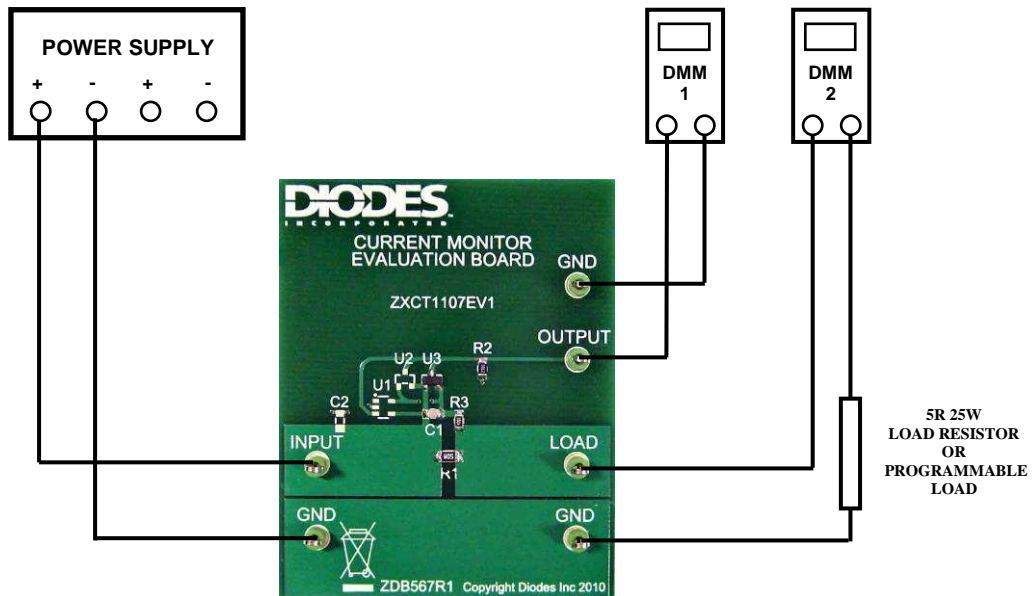

Fig. 3 – ZXCT1107EV1 Demonstration Setup
As can be seen from the test setup in Figure 3, the ZXCT1107EV1 is designed to connect a power supply between test points TP1 and TP3, a load and DMM between test points TP4 and TP5, and a DMM to measure the output voltage between test points TP6 and TP7.
2. Connect up the ZXCT1107EV1 board to the equipment as in **Figure 3** below. Set DMM1 to measure DC voltage. Set DMM2 to measure DC current.